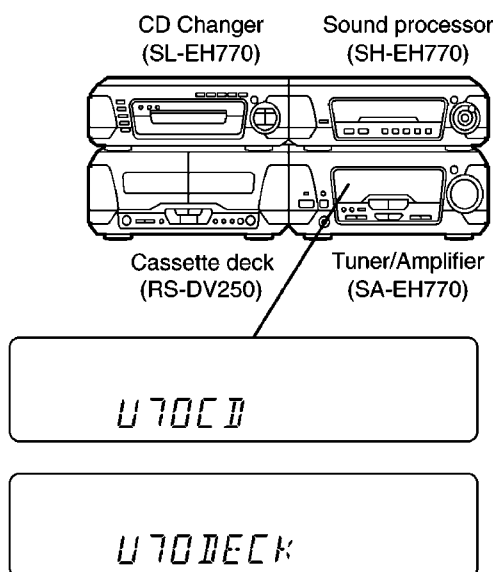

Fig. 8-1.
- U70 CD:** Automatically displays on the tuner/amplifier when a malfunction occurs. Refer to Fig. 8-1.
- U70 DECK:** Automatically displays on the tuner/amplifier when a malfunction occurs. Refer to Fig. 8-1.
- F61:** Automatically displays on the tuner/amplifier when a malfunction occurs. Refer to Fig. 8-1.